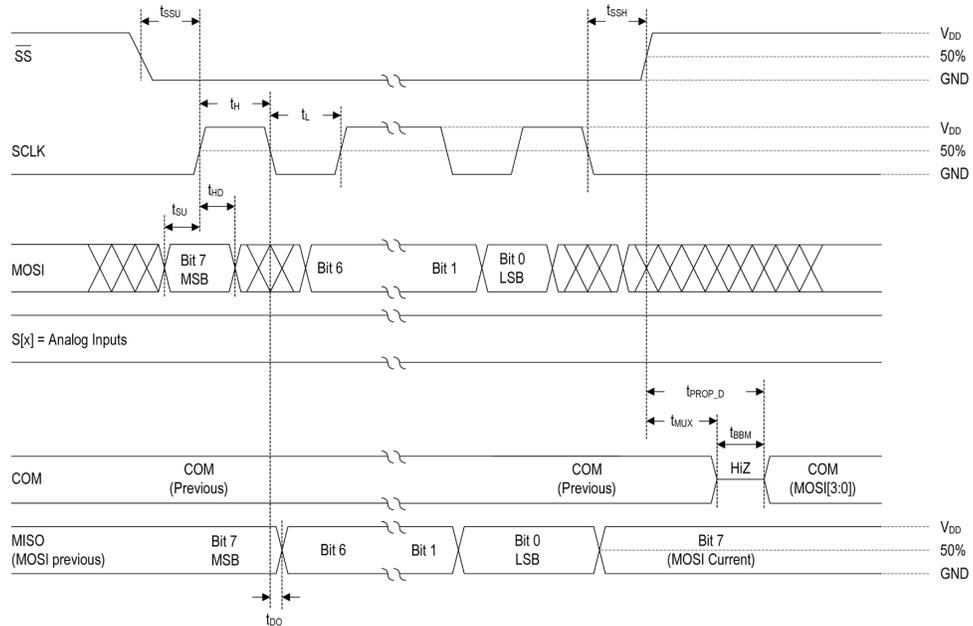

Figure 7. UT16MX115 Timing Diagram
| t_{PROP_D} | Propagation delay of any changes in the digital inputs (A[3:0], \overline{CS} , PLATCH, \overline{SS}) affecting the analog output (COM) | $R_T=50\Omega$ $C_L=50pF$ See Figures 7 & 12 | 25 | | 140 | ns |
| t_{MUX} | Mux decoding time | $R_T=50\Omega$ $C_L=50pF$ See Figures 7 & 12 | | | 50 | ns |
| t_{BBM} | Break-Before-Make-Delay | $R_T=50\Omega$ $C_L=50pF$ See Figures 7 & 12 | 15 | | 90 | ns |
| f_{SCLK} | SCLK frequency | See Figure 7 | | | 2.0 | MHz |
| t_H | SCLK high time | See Figure 7 | 190 | | | ns |
| t_L | SCLK low time | See Figure 7 | 190 | | | ns |
| t_{SSU} | First SCLK setup time (for shifting window) | See Figure 7 | 7.0 | | | ns |
| t_{SSH} | Last SCLK hold time (for shifting window) | See Figure 7 | 10 | | | ns |
| t_{SU} | Data In (MOSI) setup time wrt rising edge SCLK | See Figure 7 | 3.0 | | | ns |
| t_{HD} | Data In (MOSI) hold time wrt rising edge SCLK | See Figure 7 | 5.0 | | | ns |
| t_{DO} | Data out (MISO) valid (after falling edge of SCLK) | $C_L=50pF$ See Figure 7 | | | 43 | ns |
1. See FIGURE 7. Multiplexer serial timing (UT16MX115), for detailed timing.